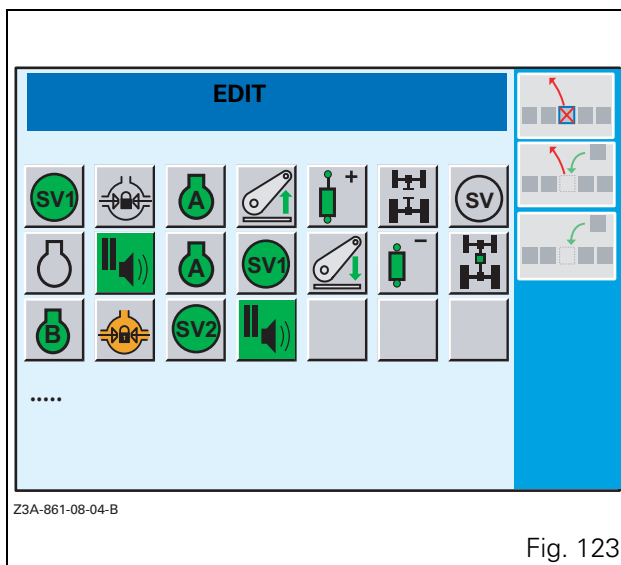

Fig. 123
- Press the key <<3 when the window (Fig. 123) is open.